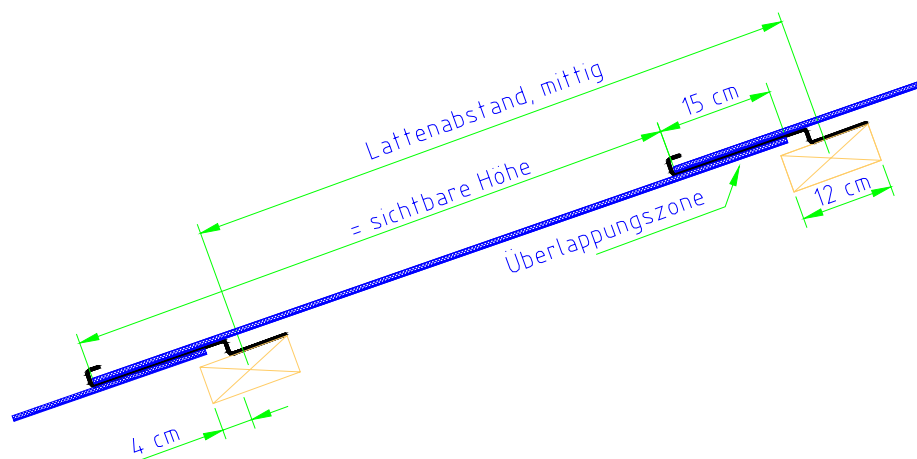
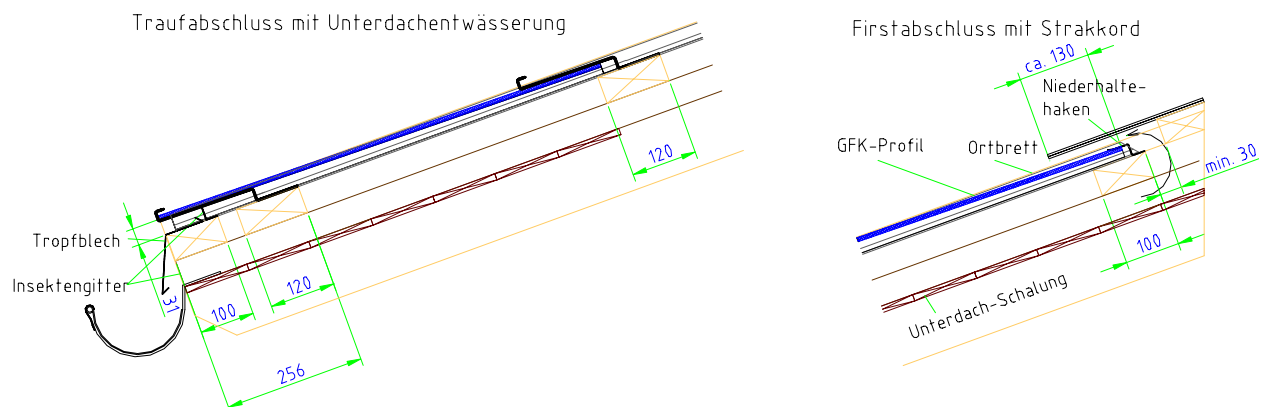

Figure 1 Side view of module and battens
Figure 3 Side view eaves and ridge
If possible, the counter-battens must be at least 50 mm high to guarantee adequate back-ventilation. The batten has a cross-section of at least 30 x 120 mm CIS: 30 x 100 mm). The vertical batten distance corresponds to the vertical exposed height of the PV elements. The batten layer must be planar and should be carefully levelled if needs be. In accordance with the regulations the battens and counter-battens must be fixed to the sub-roof or rafters. Figure 1 shows the specifications for batten structure for modules with crystalline cells (15cm overlap). Further specifications are given in chapter 2.1.
4. When dimensioning the PV elements, a vertical overlap according to figure 1 (5 cm or 15 cm) should be allowed for, and the minimal edge displacements (cell to glass border, min. 2 cm) need to be adhered to.
5. Examples of edge contacts are shown in figure 3. Contact between the solar module, particularly its glass edges and hard materials such as steel or clay needs to be excluded at the planning stage. In the case of objects within the roof such as skylights, chimneys, dormers etc, particular care must be taken and precise measurements must be taken.
One possible eave- and ridge- end is shown in figure 3. The distance between the battens (central) corresponds to the visible height of the PV element (cf. figure 1.) The uppermost batten can be positioned with a little less space as the ridge holding hook is shorter than the „normal“ hook (cf. figure 3.) It is important when installing the ridge and eave ends that adequate ventilation is ensured, i.e. ensure that the ventilation sections are as large as possible.
Next, the hooks are positioned. The vertical distance between them corresponds to the visible height of the modules (cf. figure 1.) A distance of about 15% to 25% from the right and left edge of the module is recommended for horizontal positioning. The installation gauge with adjustable distance (available from 3S) may be of service, or a tape with positions marked on it, since the positions need to be adhered to with great precision. When using the installation device, the hooks
At the eave ends, an insect shield should be installed between the fascia board and the lowest element if possible, otherwise a 2.5 cm crevice will be open. A z-shaped perforated plate with a side piece of 22 mm could be used. To protect the rear surface of the module this sheet should have a self-adhesive foam strip placed on the upper edge. In any case an insect shield is recommended at the lower end of the counter batten (cf. figure 3.) The contact edges at the verge and eaves (for example eave flashing and verge flashing and general flashings) have to be securely fastened before the PV elements are positioned.